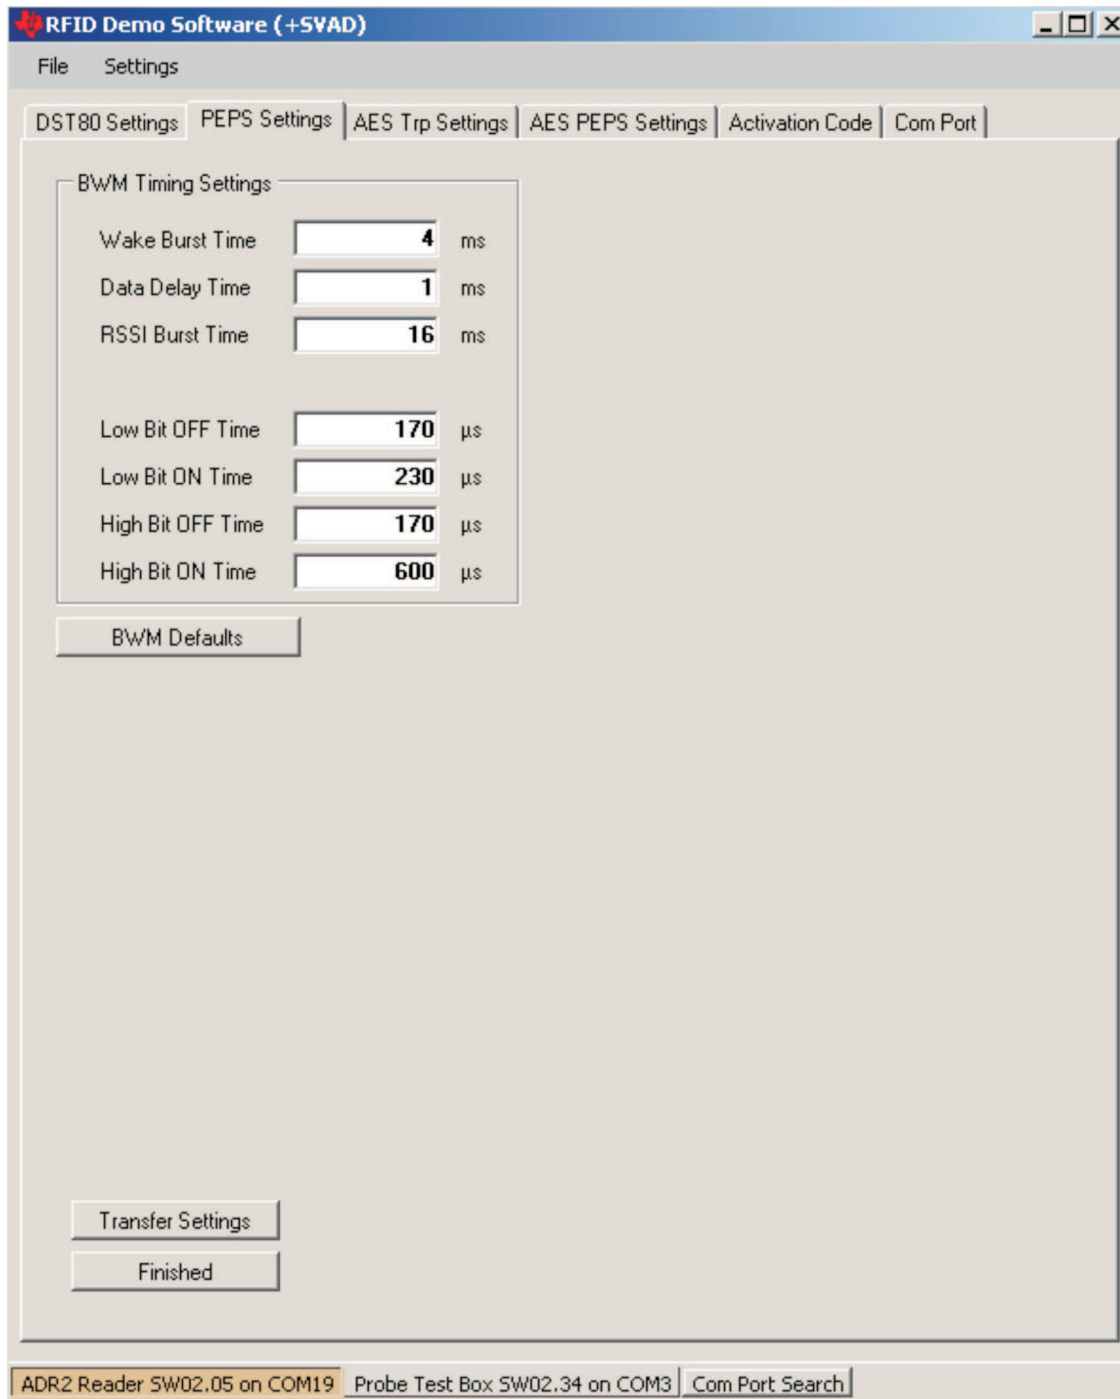

Figure 19. RFID Demo Software (BWM Defaults)
9. Setup all of the entries as shown in Figure 19.